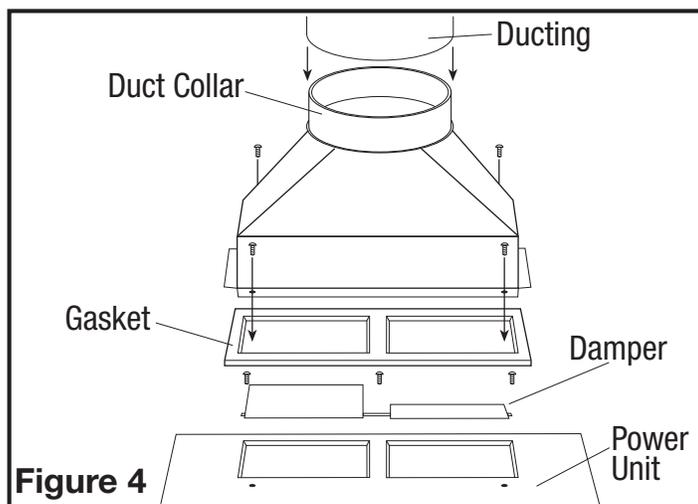
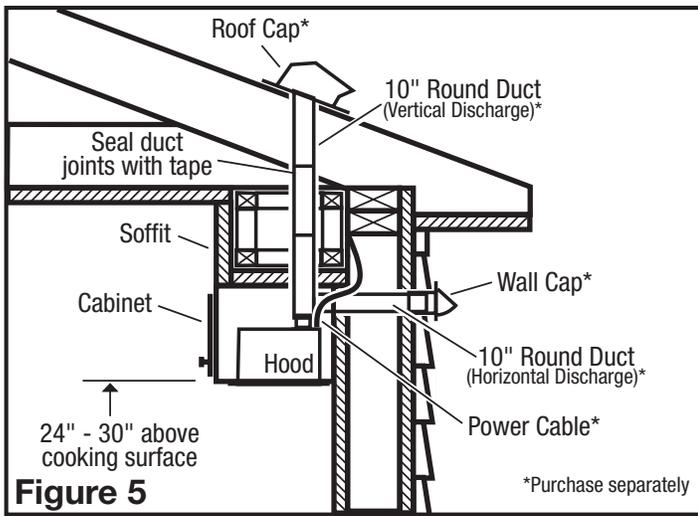

Figure 4
Figure 5
1. Install the included damper to the hood with three of the provided #6 blunt tip screws. Peel backing off the included gasket and while holding the dampers in a vertical position install the gasket onto the hood. Make sure to align the holes and rectangular cutouts to ensure the dampers open smoothly. Install the included duct collar to the hood with four of the provided #6 blunt tip screws (**Figure 4**). Ensure duct joints and exterior penetrations are sealed with caulk or other similar material to create an air-tight path to minimize building heat loss or gain and to reduce the potential for condensation. Place/wrap insulation around duct and/or fan in order to minimize possible condensation buildup within the duct, as well as building heat loss or gain (**Figure 5**).
- When there is access to the top of the unit, connect the ducting to the duct collar and secure in place using tape to seal all joints (Figure 4).